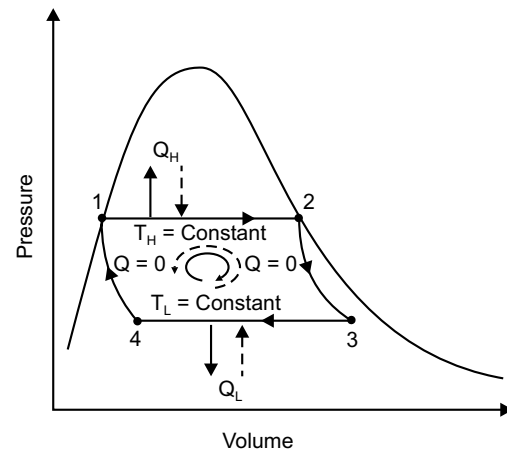

Fig. 5.8
- (i) **Vapour Cycle:** A cycle is defined as a vapour cycle when the processes involve change of phase of working substance from liquid to vapour, and from vapour to liquid as shown in figure 5.8 on  $p$ - $V$  diagram .